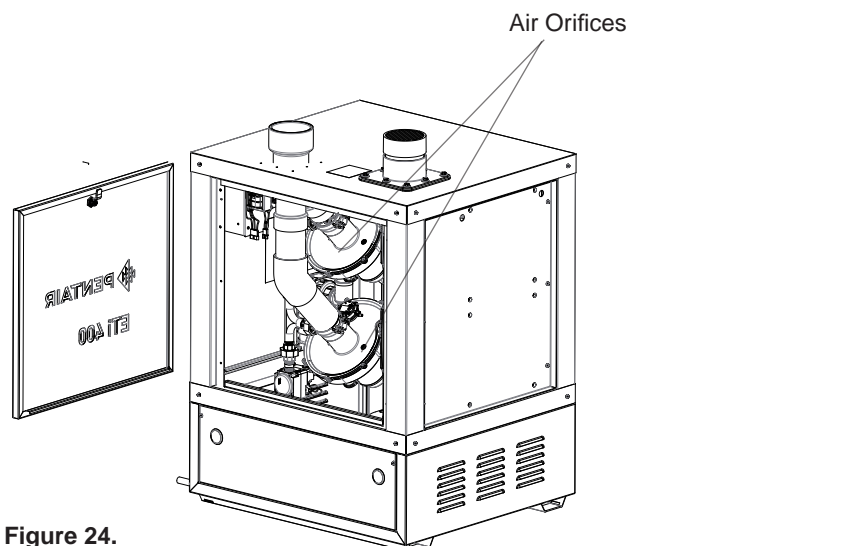

Figure 24.
6. Push the air intake assembly into the air orifices. Note: Be sure the top part of the elbow is concentric to the air intake hole in the top panel (see Figure 24).